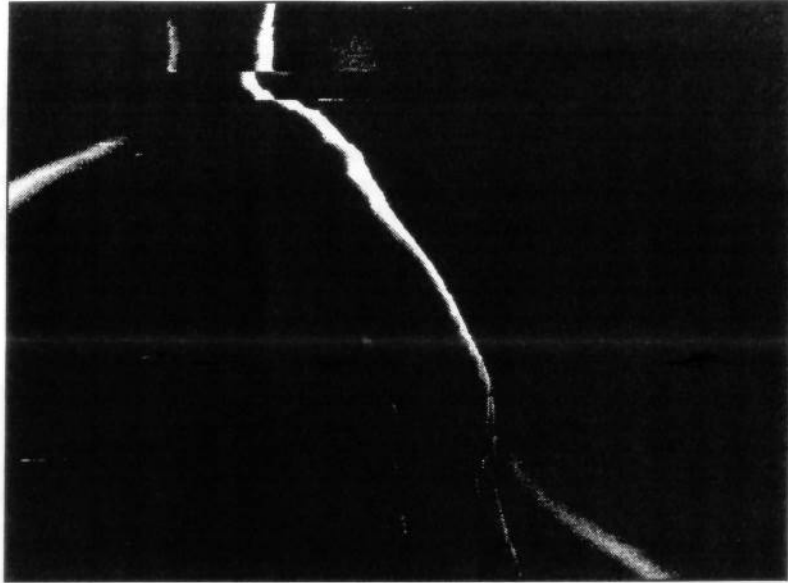

Figure 3.6 Image Shearing Due to Charging
- Image or beam shift (shearing) (see Figure 3.6)
Dust and other debris on the sample surface can also charge up, and appear as a bright area on the image surrounded by a dark region. The charged debris may deflect secondary electron emission and sometimes the incident beam, causing dark region and possibly image 'shearing' (see Figure 3.6). If the sample itself is charging, beam deflection will occur during scanning, the effect being seen as a slow image drift followed by a jump back to its original position.